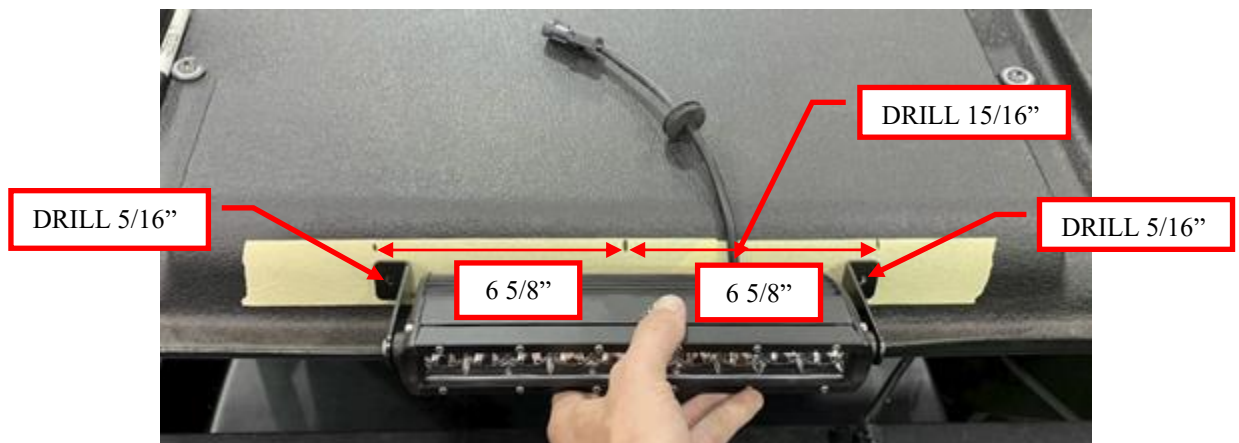

Figure 12: Measure to locate light bar holes.
13. Apply masking tape to the rear of the factory roof where the light bar will mount. Using a marker and measuring tape, locate and mark the centerline of the roof. Measure $6 \frac{5}{8}$ " to each side of the centerline and mark the edge of the light bar brackets. Hold the light bar in position by lining it up with marks. Mark the hole locations using the light bar as a template. Also mark where the wire harness comes out of the light bar. Drill $\frac{5}{16}$ " holes through the roof for the mounting tabs. Drill a $\frac{15}{16}$ " hole for the light bar grommet. See Figure 12.